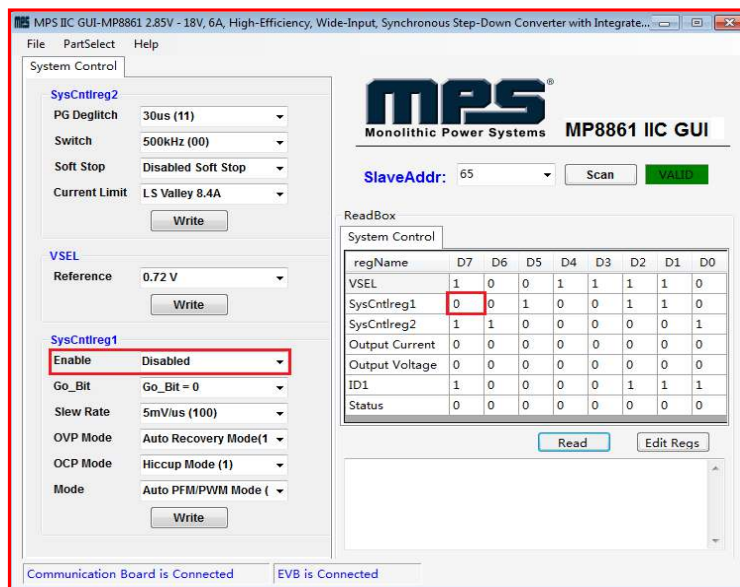

Figure 10: Refer to Datasheet to Translate 0’s and 1’s
- Click the **“Read”** button to update values. The changed information of the item will appear on the right side (see Figure 10).